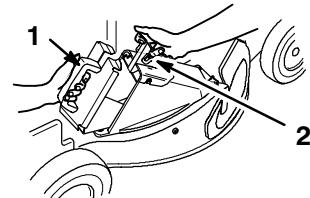

Figure 43
3. Open the discharge door by moving handle rearward (Fig. 43) and hold it open while inserting the plug.